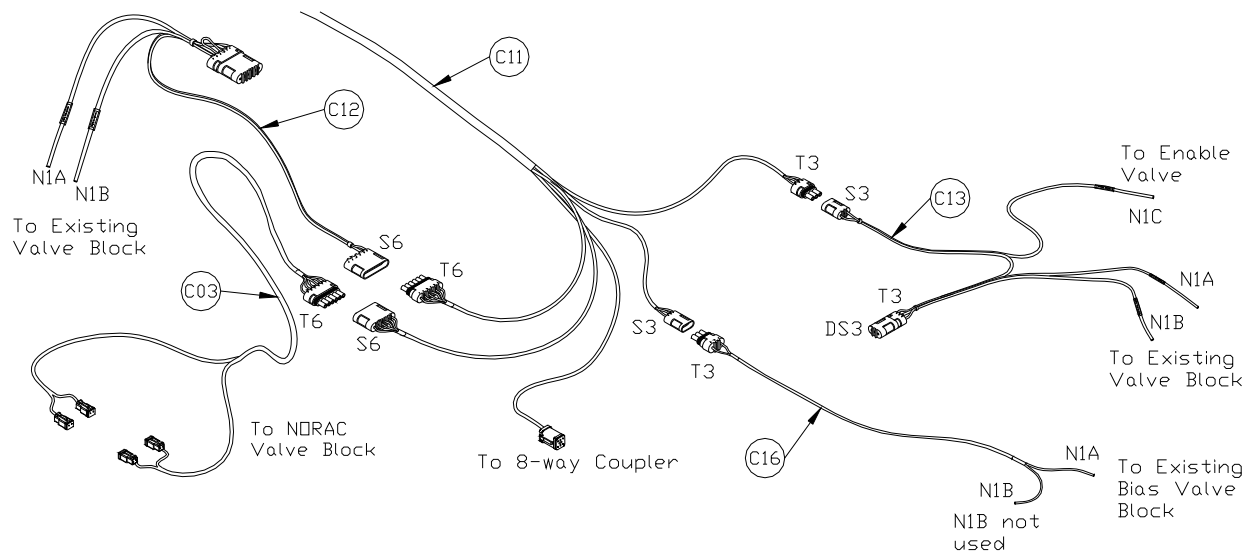

Figure 26: Cable Layout for Hydraulically Teed Installations
1. To interface with the sprayer's main lift hydraulics, the valve interface cable (C12) shown in **Figure 26** can be used.
2. It may be necessary to connect to the Bypass valve. To do this use the bypass interface cable (C13) as shown in **Figure 26**.